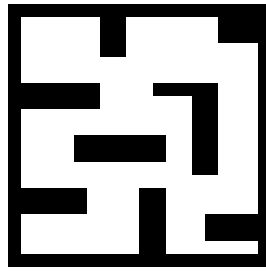

Figure 2: Map (map3_1.png)
Once in the Sweep mode, the second line of the LCD should display “Sweep”. Pressing the UP button should start the sensor autonomously to do a 360° clockwise (CW) scan of the surrounding area. The robot should be stationary. The robot then should find the nearest object and rotate itself counter clockwise (CCW) to face towards the identified shortest distance to the object. The robot will be tested in the given map may be with some random obstacles (see Figure 2).